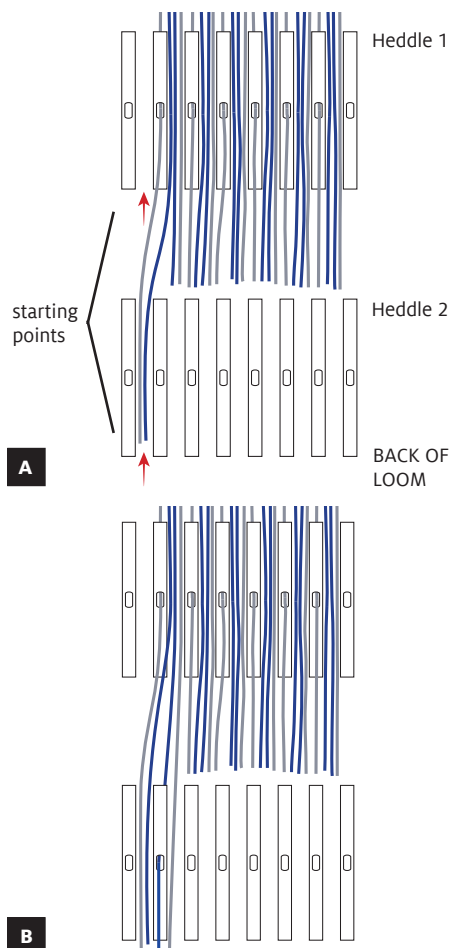

FIGURE 23: THREADING HEDDLE 2
5. After you've threaded Heddle 1, turn the loom around to work from the back of the loom, as in Figure 23.